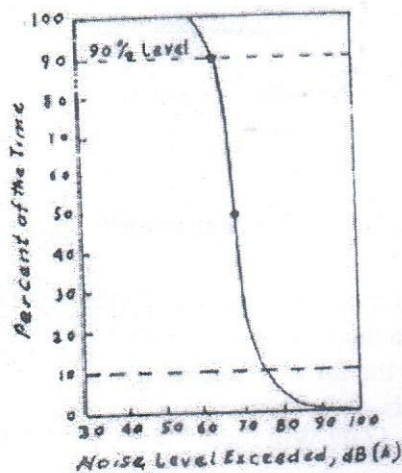

Figure 5: Statistical distribution of noise level
- (b) What are noise and sound pressure level? A statistical distribution of noise level of a class room is shown in Figure 5. Find out the equivalent noise level and noise climate of the room. [7]